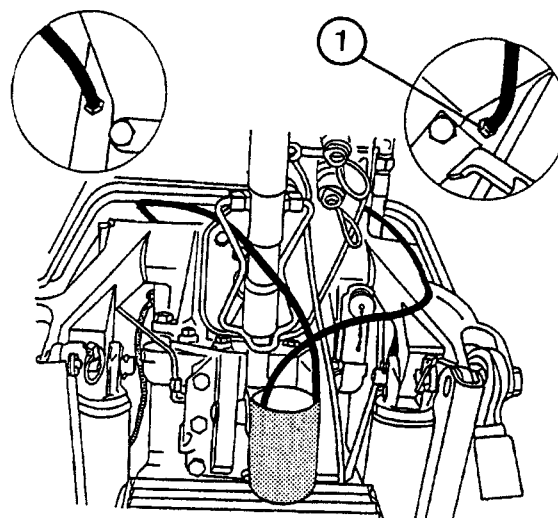

Fig. 11
1. Connect a transparent pipe (with an inside diameter of 6 mm) onto each right-hand and left-hand bleed screw on the axle housing (Fig. 11).